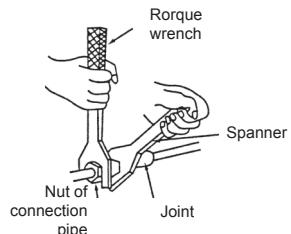

Fig. 7
2. Align the joint counter of connecting pipe with the proper indoor and outdoor joint conic surfaces,tighten the connecting nut manually. Then make it secure with a wrench as shown Fig.7, applying to above torque Table 1.